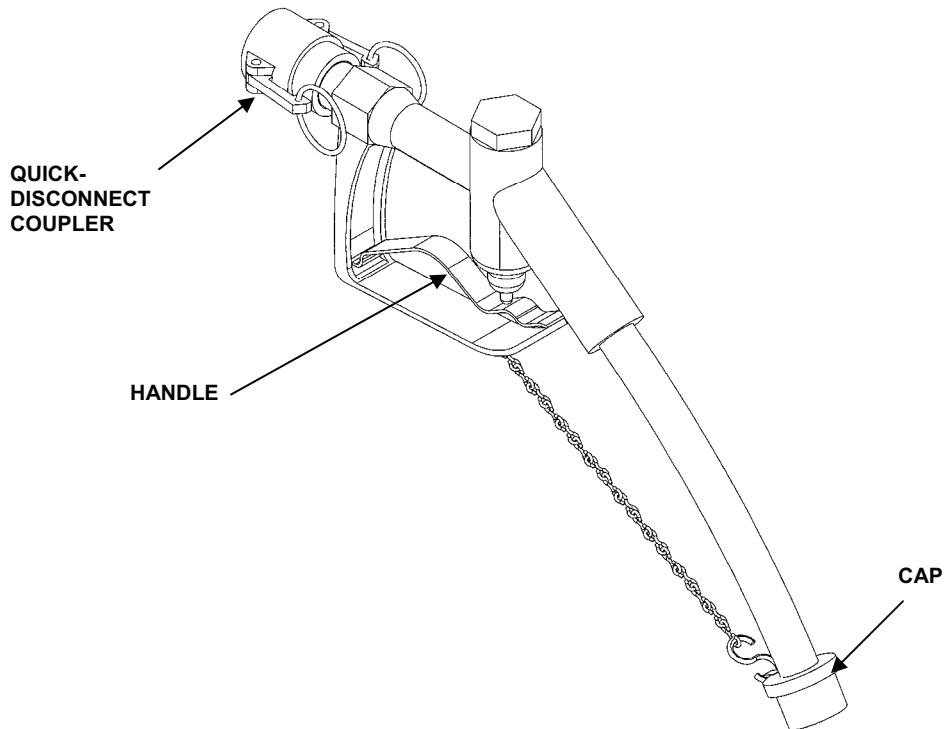

Figure 3. Product Distribution Nozzle (NZI).
6. Squeeze the handle on product distribution nozzle (NZI). See Figure 3.